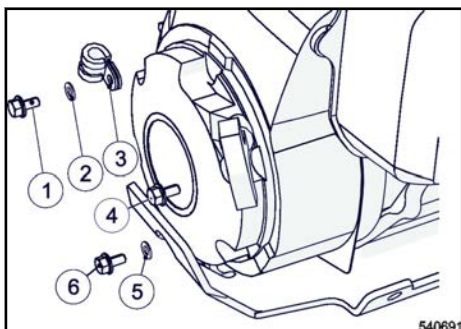

Fig. 77
Attach the screw M6x12 (1) ↪ Fig. 77 with washer (2) and clamp (3) to the recoil starter.